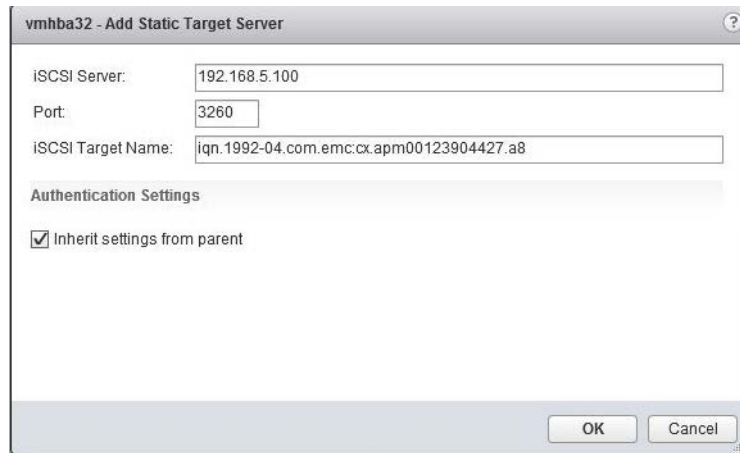

Figure 3-4. Add Static Target Server
1. Complete the Add Static Target Server dialog box as shown in Figure 3-4: